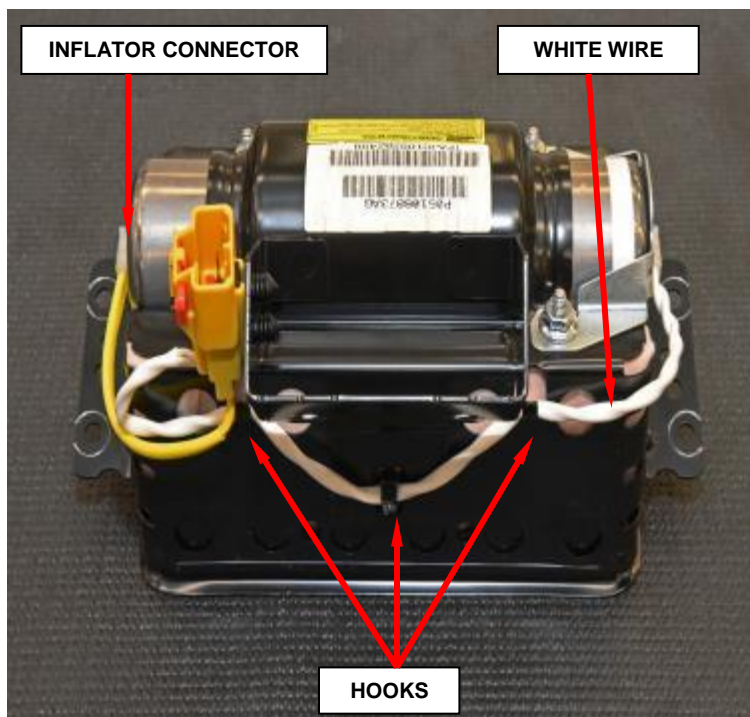

Figure 112 – Retrofit Complete
- r. Attach the white wire to the three hooks on the housing (Figure 112).
- t. Connect the single yellow wire inflator connector to the end of the inflator after removing the protective tape from the end of the inflator (Figure 112).
- u. Passenger airbag retrofit is complete (Figure 112).